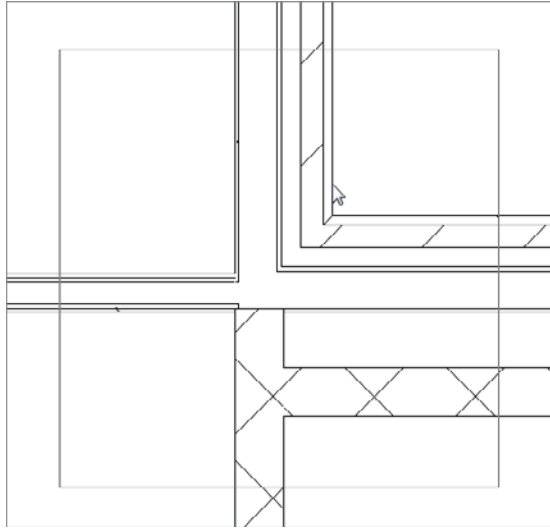

FIGURE 2.53 Choosing the intersection you wish to edit
8. Hover your pointer over the intersection. Revit displays a big box, as shown in Figure 2.53.